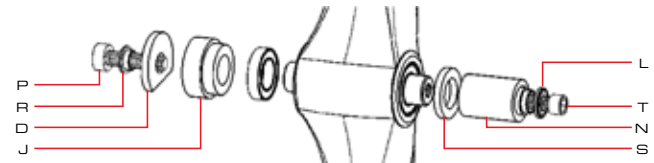

Fig.8
4. To assemble the second bearing in the Seat Tube Pivot, first slip the Link Axle through the bearing you just installed in step 3, then assemble the tools as shown in Fig. 8. Tighten the tool assembly using two 5mm Allen/Hex Wrenches, one in each screw, to draw the second bearing over the axle and into the frame.